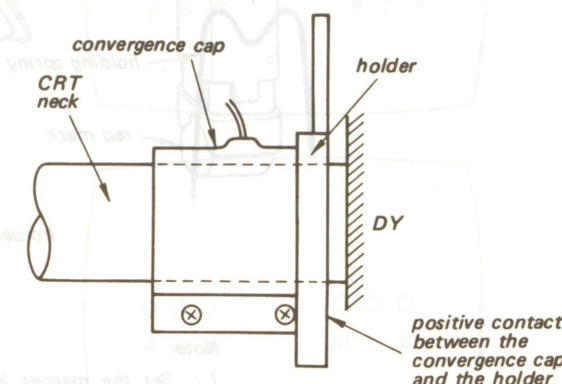

Fig. 4-5.
2. If the red and blue dots do not converge with the green dots at center screen install and adjust the horizontal magnetic convergence magnet (HMC) as necessary. See Fig. 4-5, Fig. 4-6 and Fig. 4-7.